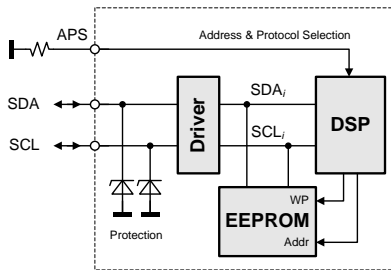

Figure 35. I2C Bus to DSP and EEPROM
1) E12 resistor values, use max 5% resistors, see also Figure 35.